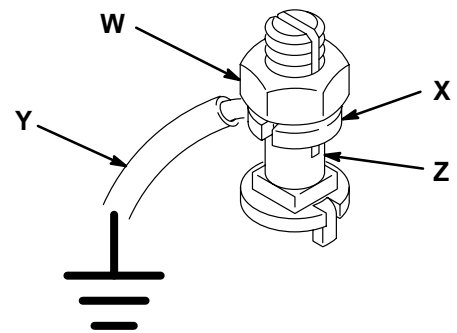

Fig 1
1. *Pump:* use a ground wire and clamp as shown in Fig 1.
To ground the pump, loosen the grounding lug locknut (W) and washer (X). Insert one end of a 1.5 mm² (12 ga) minimum ground wire (Y) into the slot in lug (Z) and tighten the locknut securely. See Fig 1. Connect the other end of the wire to a true earth ground. See the **ACCESSORIES** section for a ground wire and clamp.